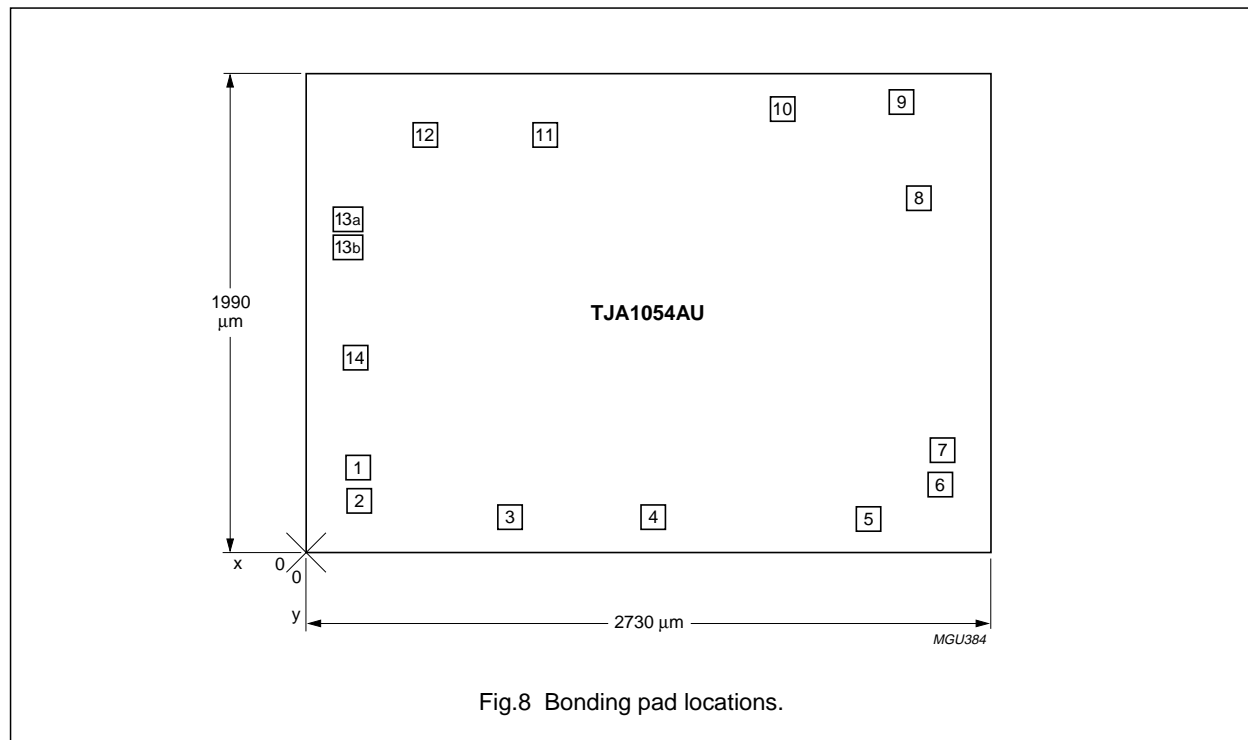

Fig.8 Bonding pad locations.
- All coordinates ( $\mu\text{m}$ ) represent the position of the centre of each pad with respect to the bottom left-hand corner of the top aluminium layer (see Fig.8).